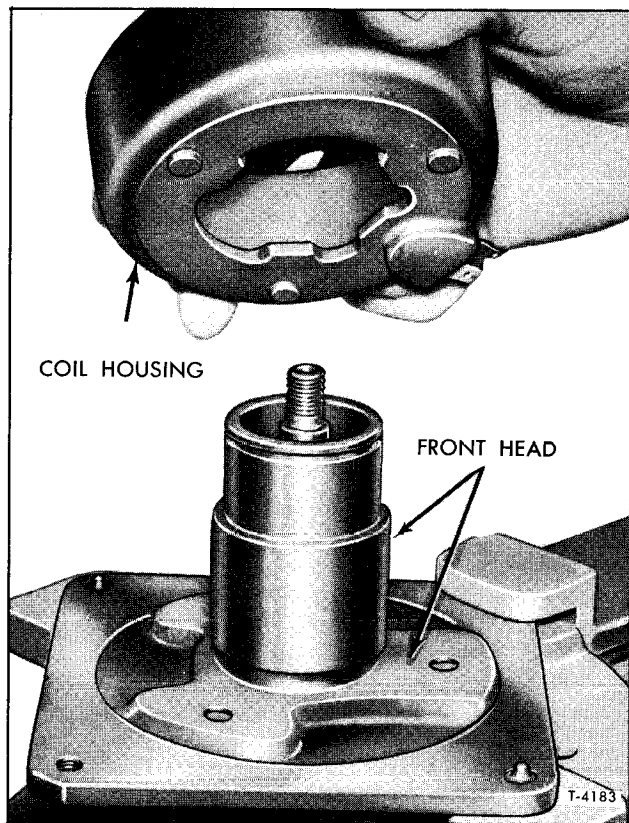

Figure 42—Installing Coil Housing
1. Rotate the coil housing to the correct position as indicated by the scribe marks and the location of the electrical terminals and fit into place (figure 42).